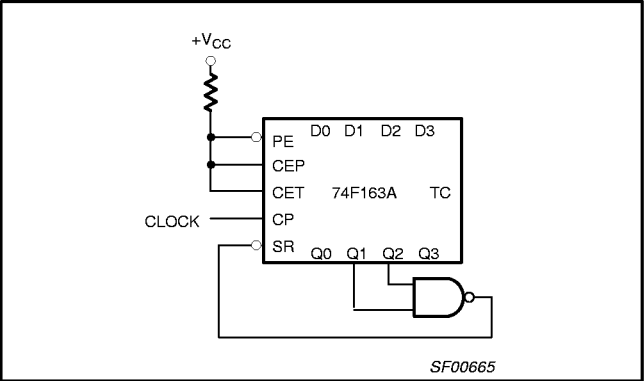
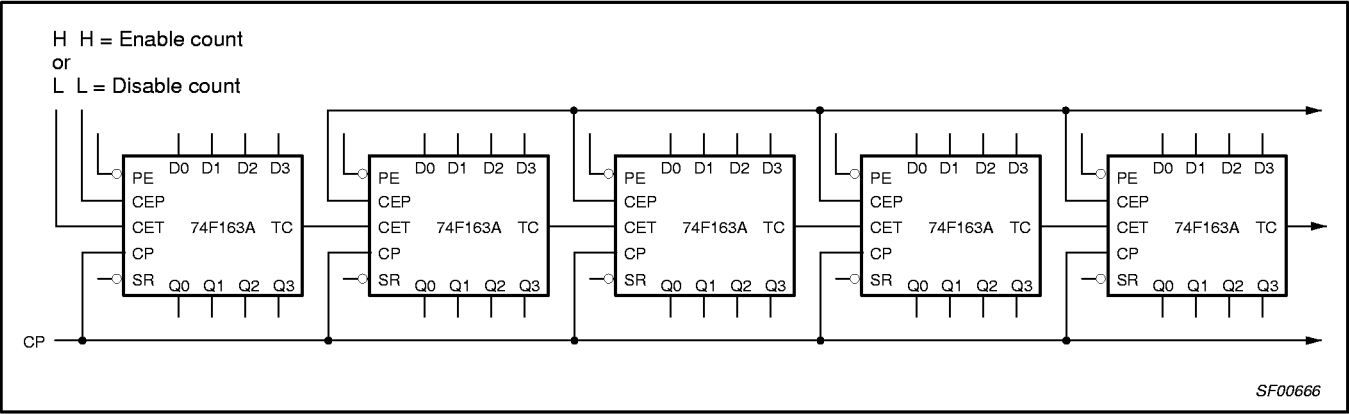

Figure 1. Maximum count modifying scheme
Figure 2. Synchronous multistage counting scheme
A Low level at the Master Reset (MR) input sets all the four outputs of the flip-flops (Q0 – Q3) in 74F161A to Low levels, regardless of the levels at CP, PE, CET and CEP inputs (thus providing an asynchronous clear function). For the 74F163A, the clear function is synchronous. A Low level at the Synchronous Reset (SR) input sets all four outputs of the flip-flops (Q0 – Q3) to Low levels after the next positive-going transition on the clock (CP) input (provided that the setup and hold time requirements for SR are met). This action occurs regardless of the levels at PE, CET, and CEP inputs. The synchronous reset feature enables the designer to modify the maximum count with only one external NAND gate (see Figure 1). The carry look-ahead simplifies serial cascading of the counters. Both Count Enable (CEP and CET) inputs must be High to count. The CET input is fed forward to enable the TC output. The TC output thus enabled will produce a High output pulse of a duration approximately equal to the High level output of Q0. This pulse can be used to enable the next cascaded stage (see Figure 2). The TC output is subjected to decoding spikes due to internal race conditions. Therefore, it is not recommended for use as clock or asynchronous reset for flip-flops, registers, or counters.